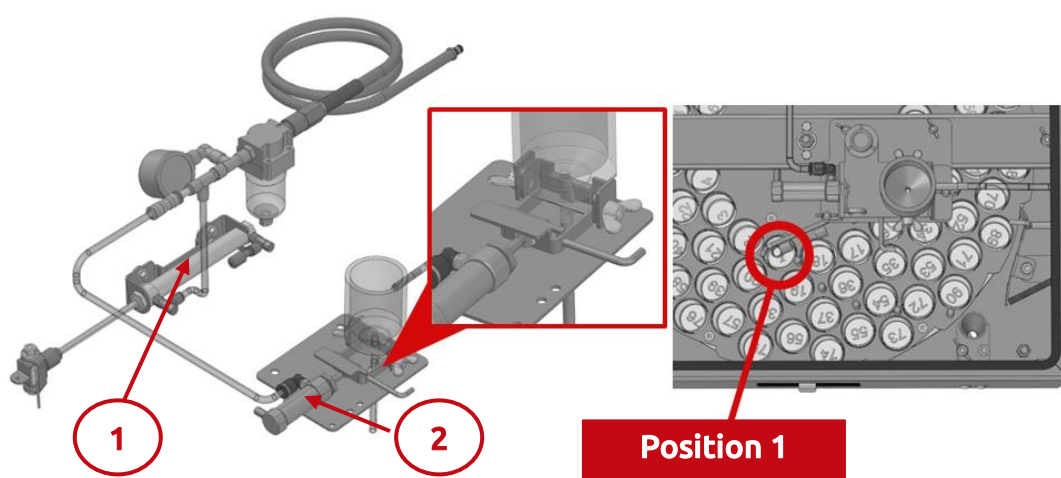

Figure 64. Standby position
In the standby position, without air pressure, the cylinder (1) which drives the crown pushes the rod out, the cylinder (2) to fill the bottle with the rod out and presses the silicone tube, the dispenser changer tube is in position 1. (See Figure 64)